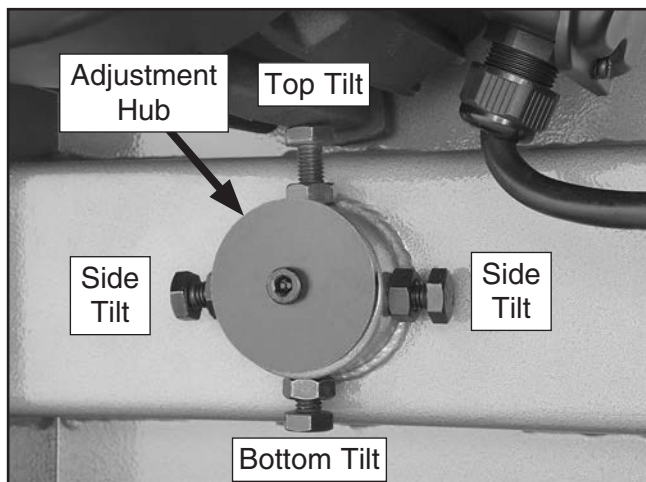

Figure 85. Lower wheel adjustment control.
2. Loosen the jam nuts on the lower wheel adjustment hub (see **Figure 85**).